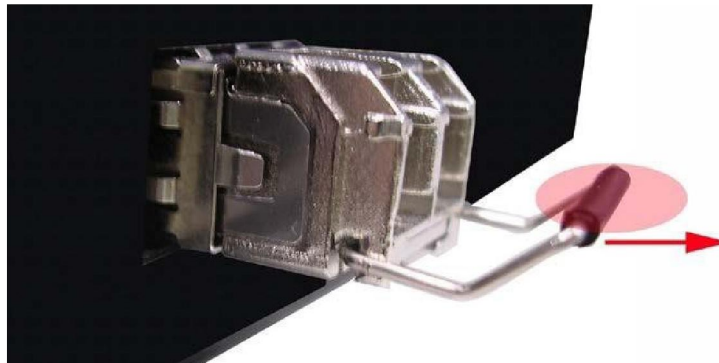

Figure 2.11
2. Push down the metal clasp and pull the transceiver out by the plastic part as shown below in *Figure 2.11*.